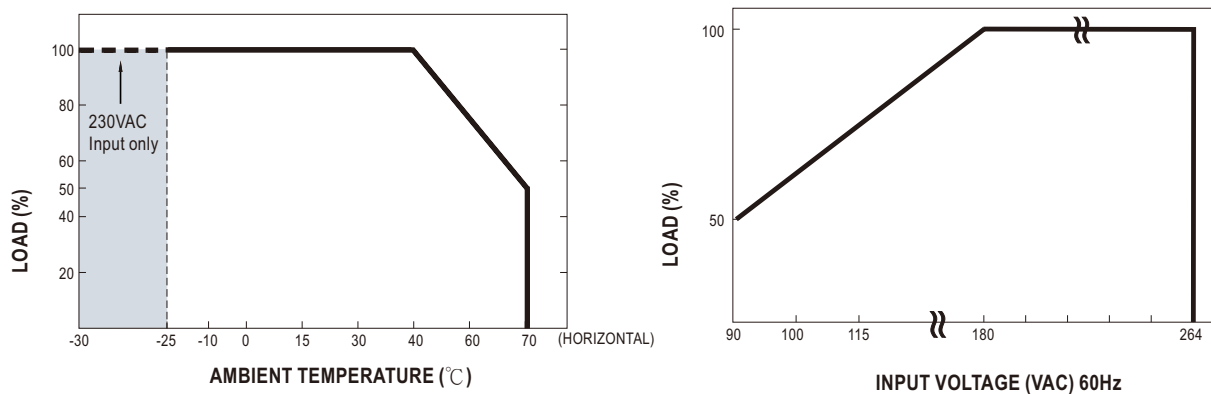

Figure 4-2 Output de-rating curves
- ⊙ When DRP-3200/DBR-3200 units are operating at a lower AC input voltage, these units will de-rate their output current automatically to protect themselves, shown as Figure 4-2.